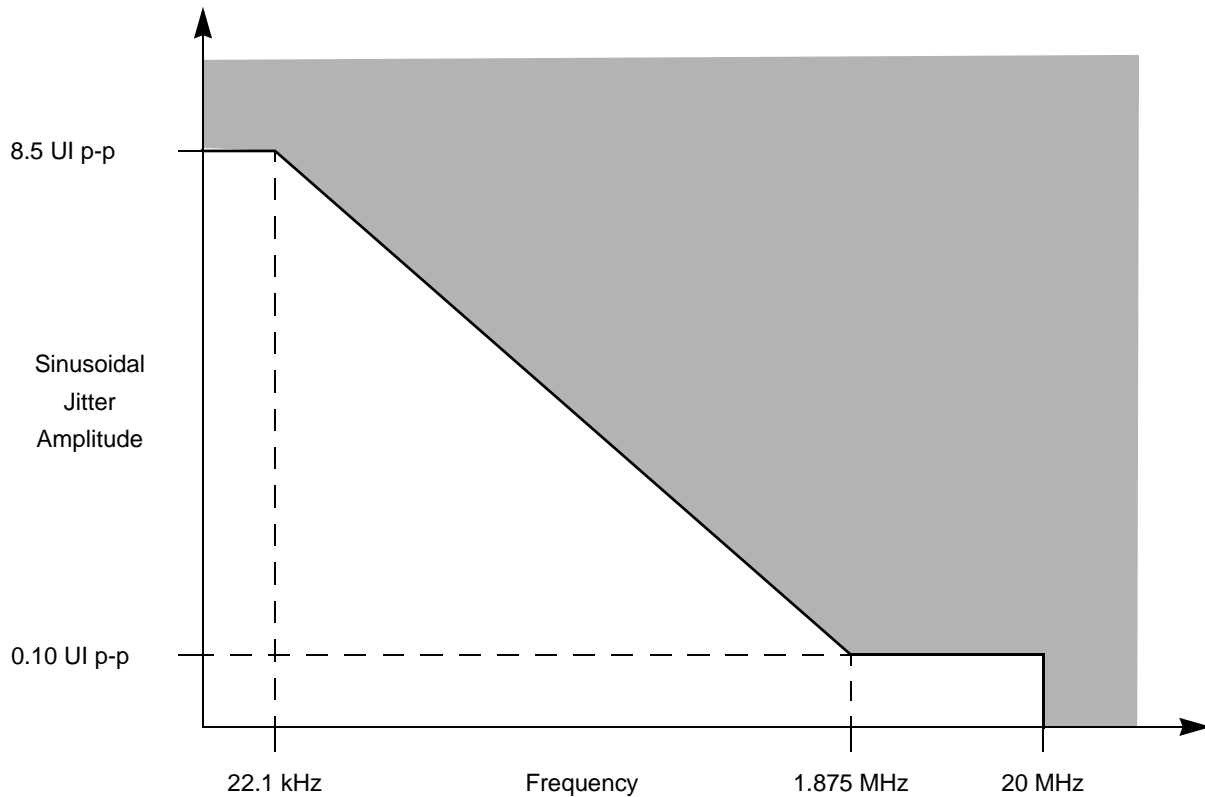

Figure 59. Single Frequency Sinusoidal Jitter Limits
- Total jitter is composed of three components, deterministic jitter, random jitter and single frequency sinusoidal jitter. The sinusoidal jitter may have any amplitude and frequency in the unshaded region of Figure 59. The sinusoidal jitter component is included to ensure margin for low frequency jitter, wander, noise, crosstalk and other variable system effects.